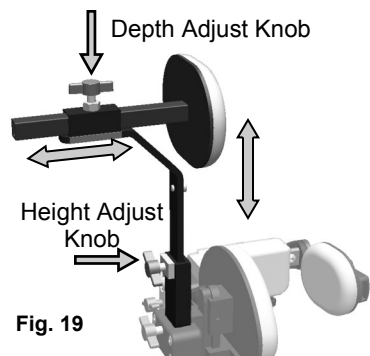

Fig. 19
- Adjust Headpad height and depth to desired location and tighten the adjustment knobs (fig. 19).